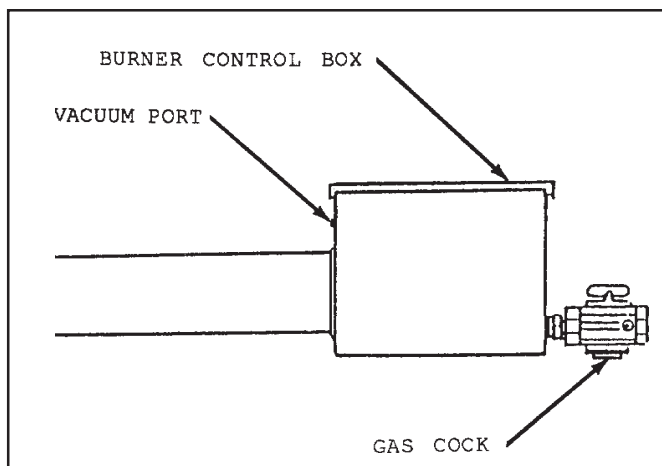

Figure 2.32
6. Using a manometer with an adequate range, measure the vacuum at the burner (Figure 2.32) farthest away from the vacuum pump. Adjust the primary damper at the pump until the manometer reading at the burner measures  $-1.0''$  (negative) W.C.P. (readings will be below atmospheric pressure), and lock damper in position.